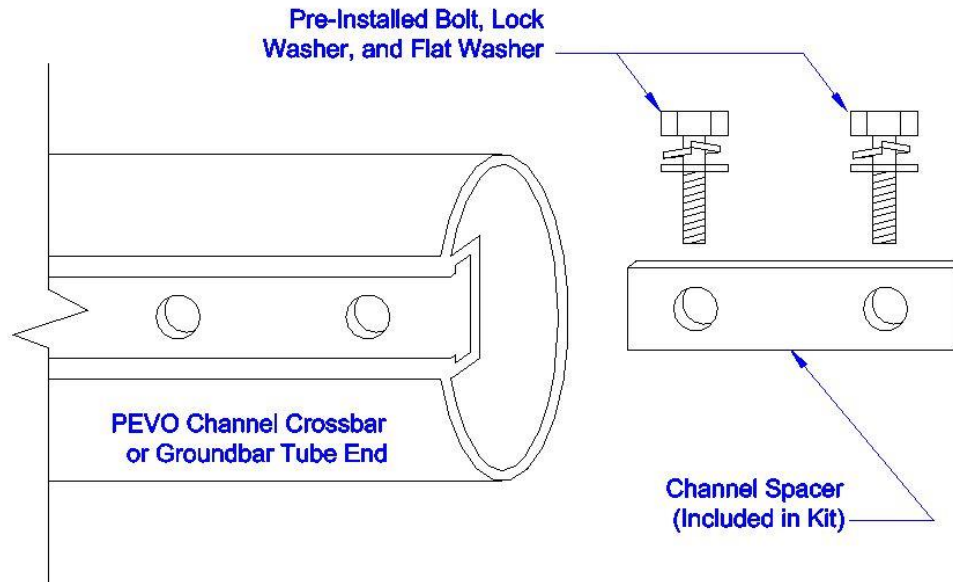

Figure 1. Channel Spacer and Hardware.
4. Lay Crossbar on flat surface with Channel facing upward and place Upright /Backstay Assemblies near each end of Crossbar. Install Plates into Crossbar channel near the end and align holes (See Figure 1). Remove Bolts and Washers from Upright Stubs and place nearby.